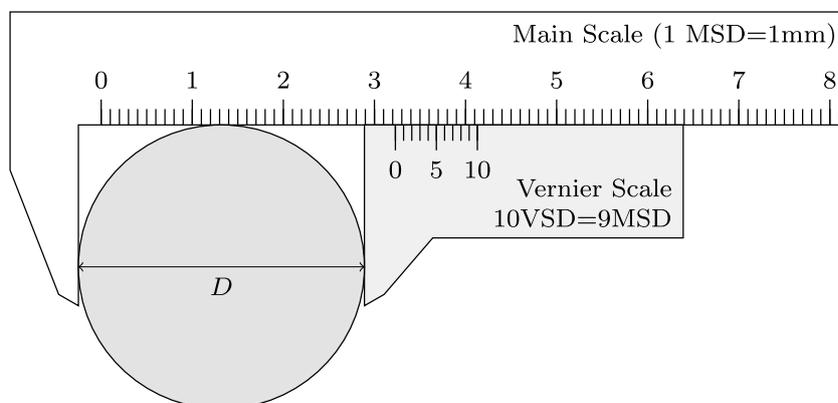

Figure 10: Problem 3.
**Problem 3.** The zero error of the Vernier calipers shown in Figure 10 is 0.09 cm. What is the diameter of the sphere being measured in the figure. (Ans: 3.14 cm)